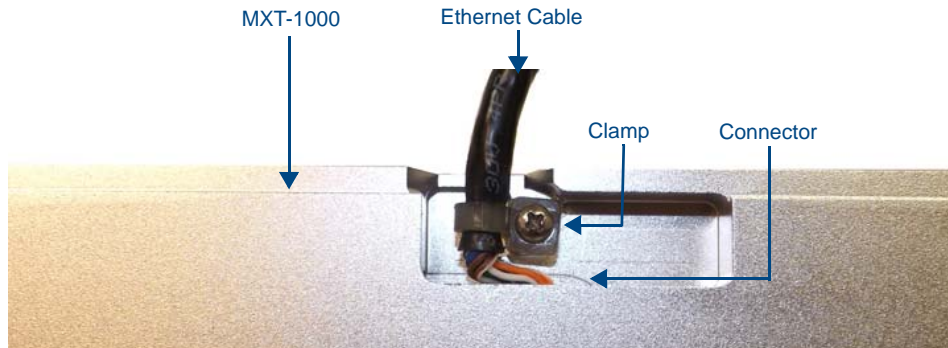

FIG. 11 Bottom of the MXT-1000
In installations where you wish to conceal the Ethernet cable, a hole at least 1.00" (2.54 cm) in diameter is required in the surface to allow passage of the female RJ45 connector (FIG. 11). If using a smaller hole is unavoidable, you will need to disconnect the Ethernet cable (**ECA5968-05**) from the device.
2. Remove the clamp holding the Ethernet cable (FIG. 11) until the Ethernet cable moves freely.